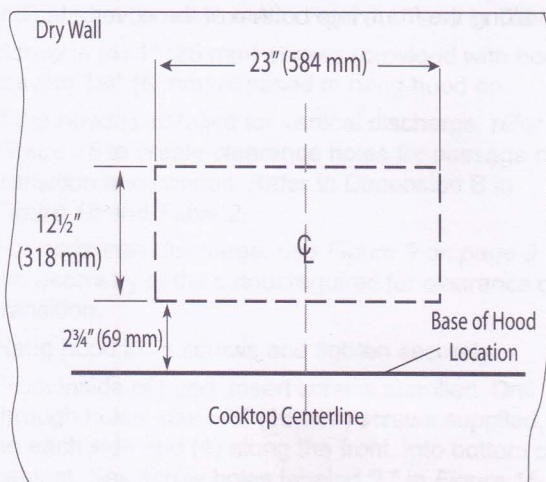

Figure 9: Cutout Dimensions
Discharge Direction: Horizontal discharge requires a wall cutout, as shown in *Figure 9*, to provide clearance for the transition. The location of the cutout is determined by the hood installation height.
4. For horizontal discharge, use Figure 9 on page 9 for the geometry of the cutout required for clearance of the transition.